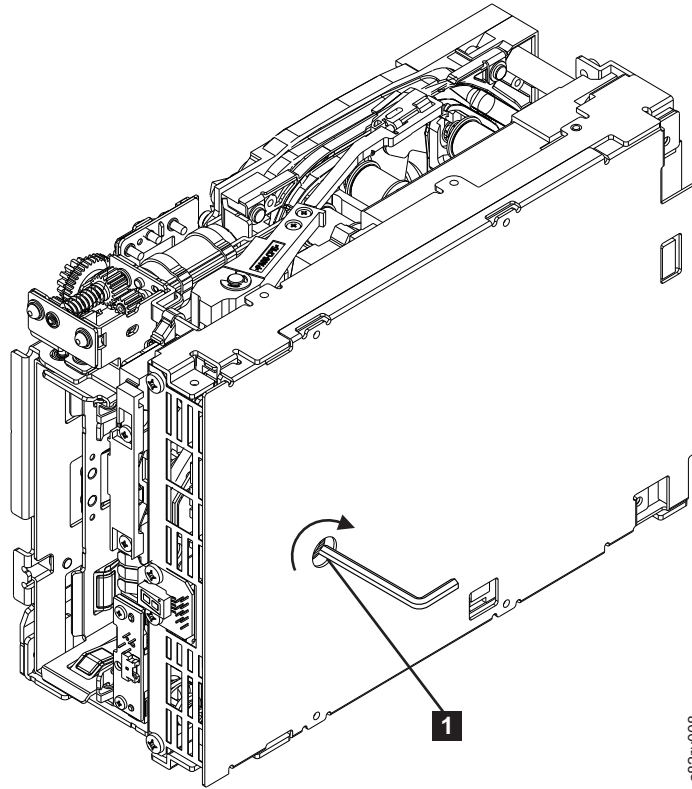

Figure A-13. The hex wrench rewinds tape into cartridge
6. From the bottom of the drive, locate the access hole (**1** in Figure A-13 on page A-14) in the bottom cover. Insert a 2.5 mm offset hex wrench through the bottom cover access hole and into the reel motor axle. Begin spooling tape back into the cartridge by turning the hex wrench clockwise.